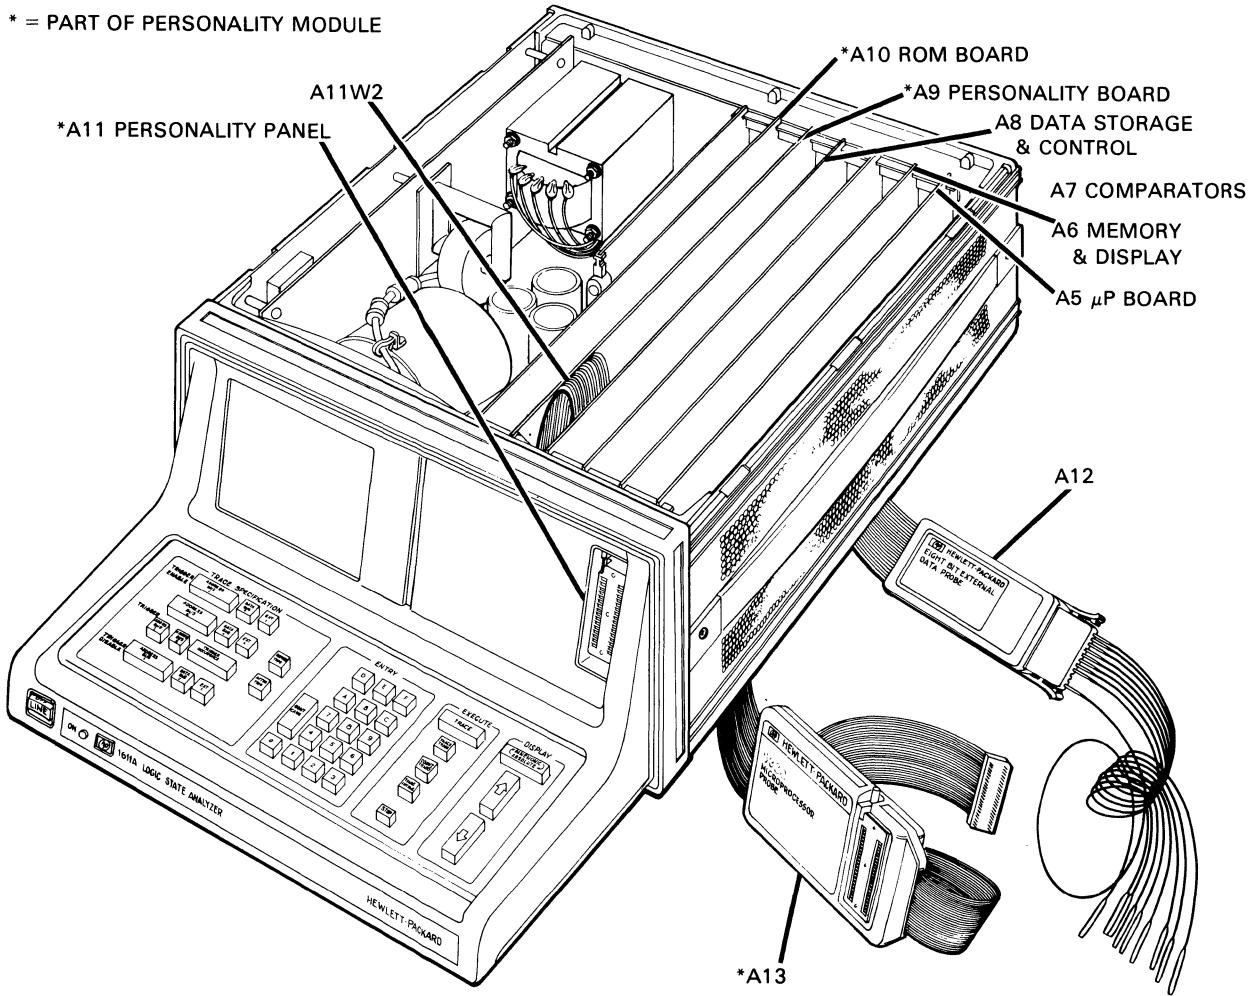

Figure 2-1. Model 1611A Assembly Locations
2-3. Figures 2-1 and 2-2 are provided to facilitate component identification.
- c. Loosen captive screw on rear of 1611A top cover. Remove top cover and disconnect ribbon cable A11W2 from A9 (see figure 2-1).
k. Install A10 Option A80 ROM Board and A9 Option A80 Personality Board onto Main Board A1 as shown in figure 2-1.
m. Reinstall A5, A6, A7 and A8 boards onto Main Board A1 as shown in figure 2-1.